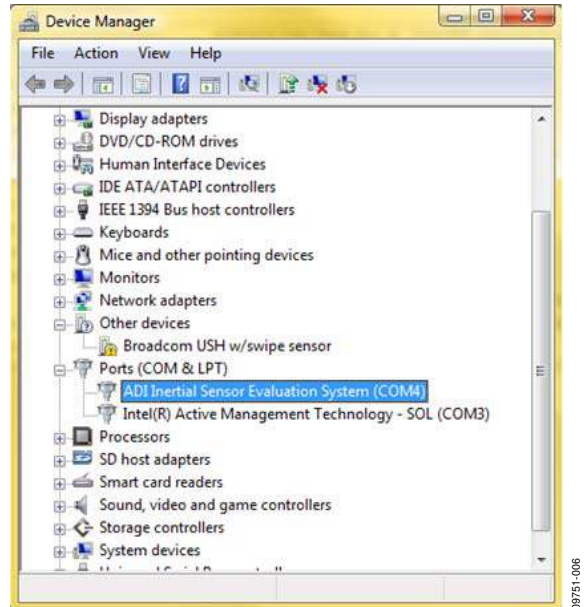

Figure 10. Device Manager Showing the COM Port Number
2. Underneath **Tasks**, select **Device Manager**. Windows Vista may request that you allow access to this panel, and administrative privileges may also be required. The window shown in Figure 10 should now open.
The **Device Manager** window should look like the window shown in Figure 10.